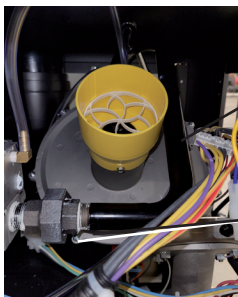
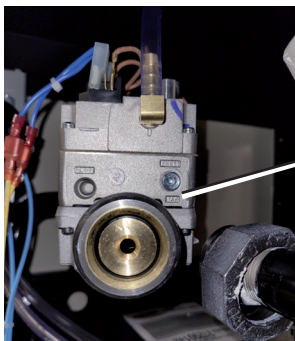

Figure 4.
Figure 5.
7. **REPLACE GAS ORIFICE:** Use channel lock pliers to loosen the gas train at the gas orifice union (near the gas valve) and replace the GAS ORIFICE with the new one provided. See Figure 5. Discard the old gas orifice. **Be sure that the o-ring is installed around the outside edge of the gas orifice, and the gas orifice is seated flush inside the union.** Tighten the union using channel lock pliers for a good seal. See Figure 4 and 5.